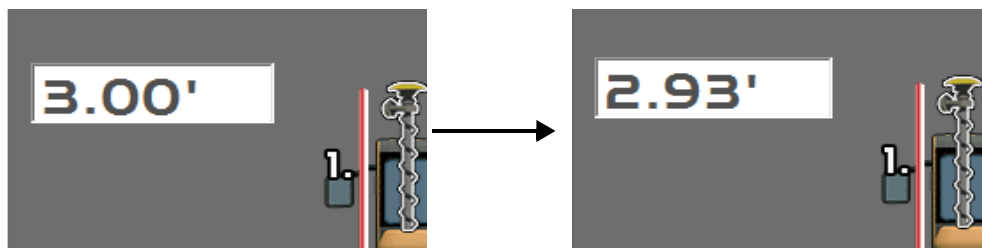

Figure 75: Adjust Main Antenna Height
- If the reported average elevations of 3D-MC are lower than a survey rover, decrease the antenna height value in 3D-MC (Figure 75).